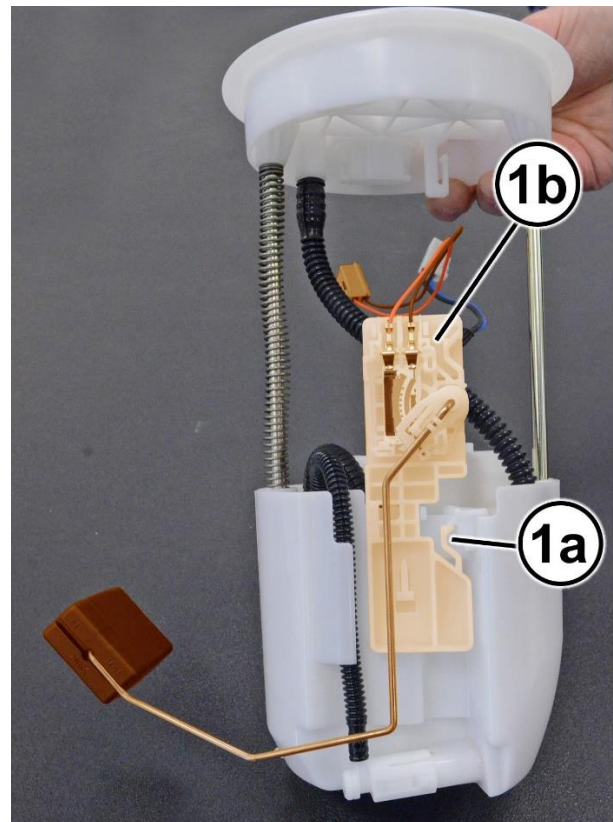

Figure 24 – Fuel Level Sending Unit
51. Release the locking tab (1a) then slide the fuel level sending unit with float (1b) up to release and remove it from the fuel delivery module (Figure 24).
9. Install the fuel level sending unit with float (1b) and secure the tab (1a) (Figure 24).